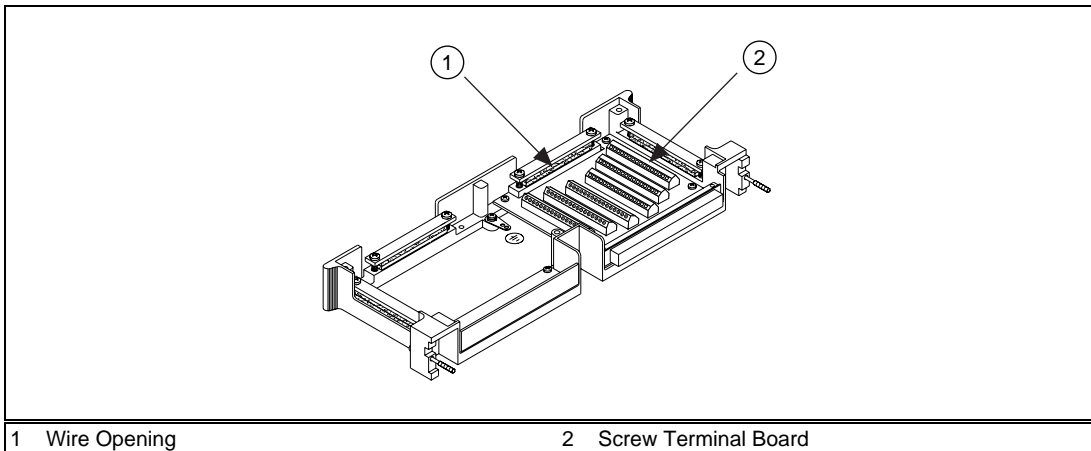

Figure 2. VXI-TB-1000 Screw Terminal Board
1. To access the screw terminals (9), remove the terminal block cover (5) by loosening the three cover screws (6) with a Phillips-head number 1 screwdriver. These screws stay attached to the cover without falling out.
2. Choose the wire opening (see Figure 2) through which your signal wires will pass and loosen the appropriate strain-relief bar screws (11) with a Phillips-head number 2 screwdriver. You can completely remove the strain-relief bar (12) for easier access.
4. Loosen the screws in the screw terminals (9) with a 0.09 in. flathead screwdriver.
Figure 2 shows the screw terminal board inside the uncovered VXI-TB-1000 terminal board carrier with one terminal board.